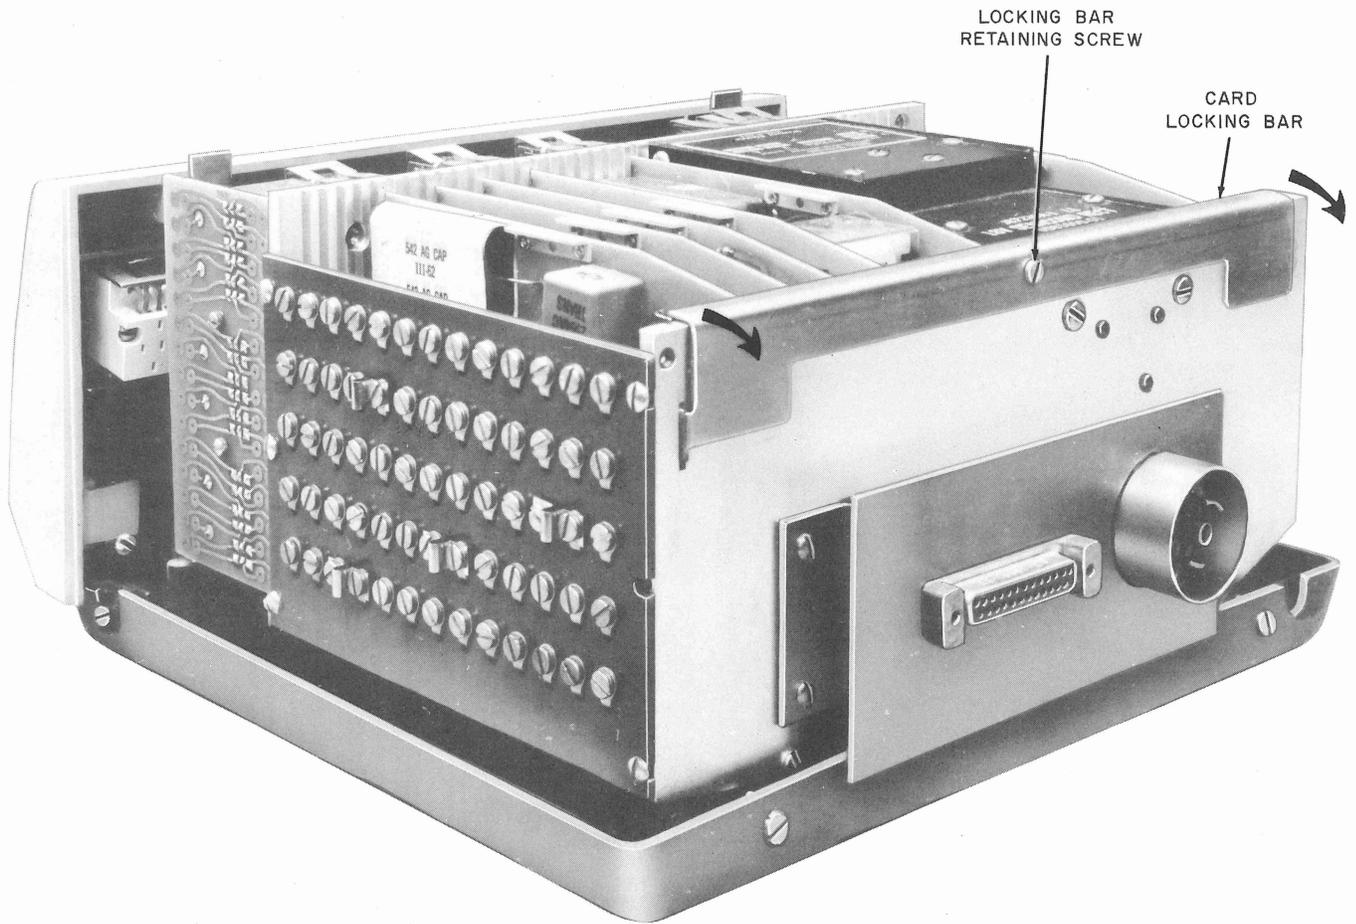

Fig. 2 — Data Auxiliary Set 801C Type — Covers Removed for Printed Circuit Board Replacement
- (1) Remove rear cover of ACU. (See Section 598-012-100.)
- (2) Release the printed circuit board locking bar by loosening the locking bar retaining screw. (Fig. 2.)
- (3) Allow the printed circuit board locking bar to swing out to the open position.
- (4) Grasp the printed circuit board bracket near top of the board and carefully extract by pulling straight up.
- (5) Fit new assembly into positioning grooves and lower assembly until it seats in the connector socket.